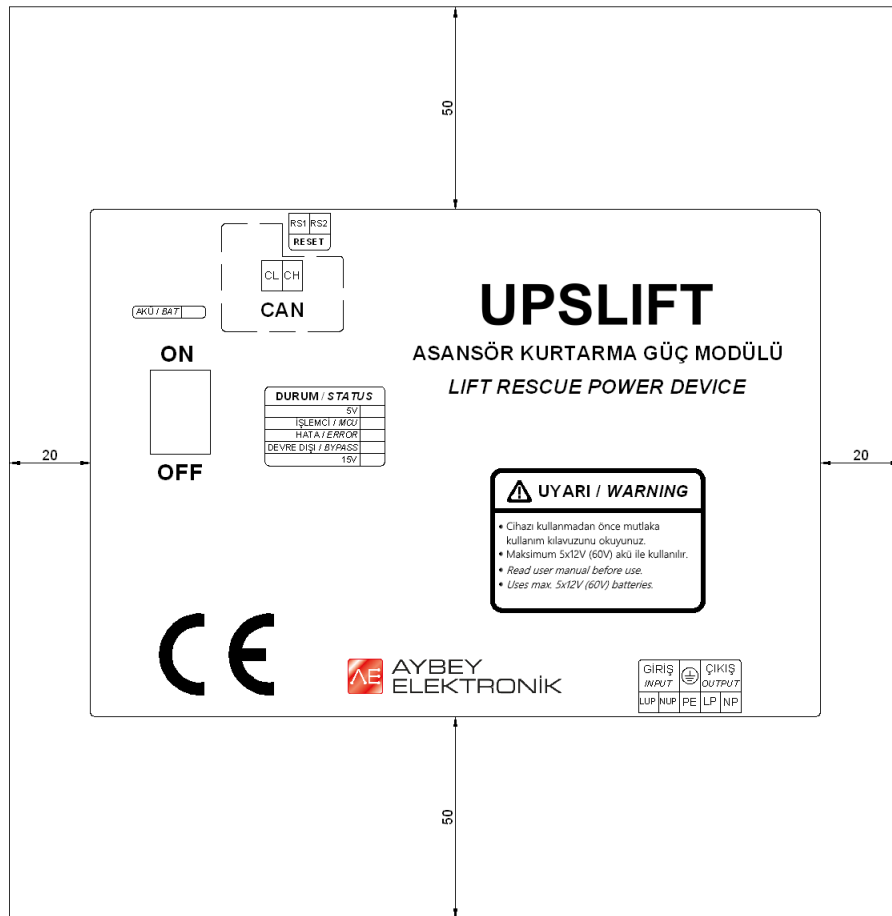

Figure 2.1: Recommended Mounting Distance [mm]
- Place the device into the controller box by leaving suggested distances around the device according to *figure 2.1*. Otherwise the device may suffer from excessive heat.